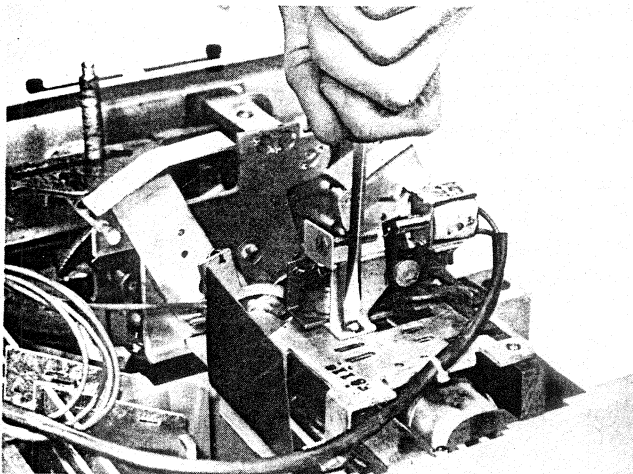

Fig. 6
- Line up the UVR bracket's mounting hole with the tapped hole in the accessory mounting plate. Install screw and lockwasher (Fig. 6). Tighten to 9-11 inch pounds.